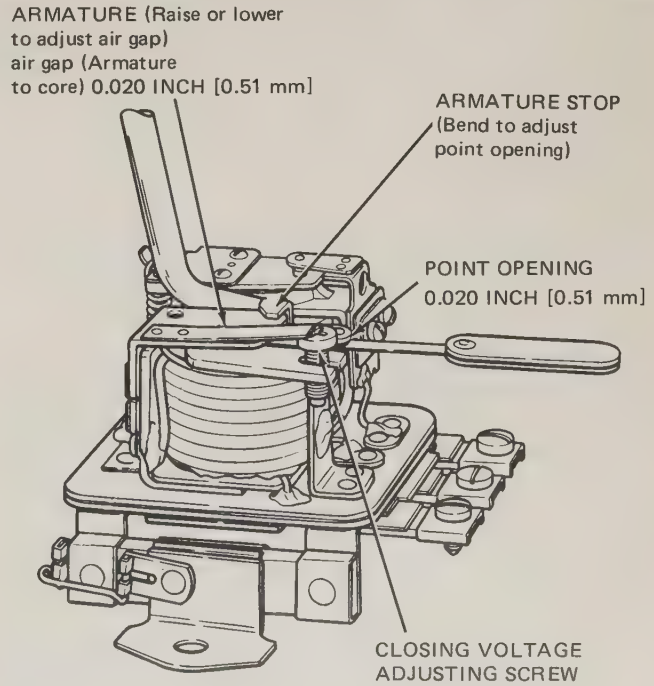

FIG. 28-17 Cutout-relay adjustments. (Kohler Company)
**Air Gap** See Fig. 28-17. Put a finger on the armature directly above the center of the winding, and press down on the armature until the points just close. Measure the air gap between the armature and the center of the winding core. On the model shown, this
**Point Opening** Release the armature and measure the point opening, as shown in Fig. 28-17. On the model shown, this should be 0.020 inch [0.51 mm]. Adjust by bending the upper armature stop.
**Closing Voltage** Connect the battery. Then connect a voltmeter from the generator terminal to ground. Start the engine and slowly increase its speed, noting the increase in voltage. Watch for the points to close, and read the voltage at this instant. The voltage should be adjusted, if it is not correct, by turning the closing-voltage adjusting screw (Fig. 28-17). Turning it to increase the tension of the flat spring increases the closing voltage. Recheck the closing voltage after each adjustment by slowing the engine until the points open and then increasing the speed again.
Refer to the manufacturer's instructions for the specific regulator under test so you will know how to connect the meters to make the test. Adjust by bending the lower spring hanger down to increase the voltage setting or up to lower the voltage setting. Some regulators have a screw adjustment, similar to that shown in Fig. 28-17, for the cutout relay. Turning the screw in or out changes the voltage setting.